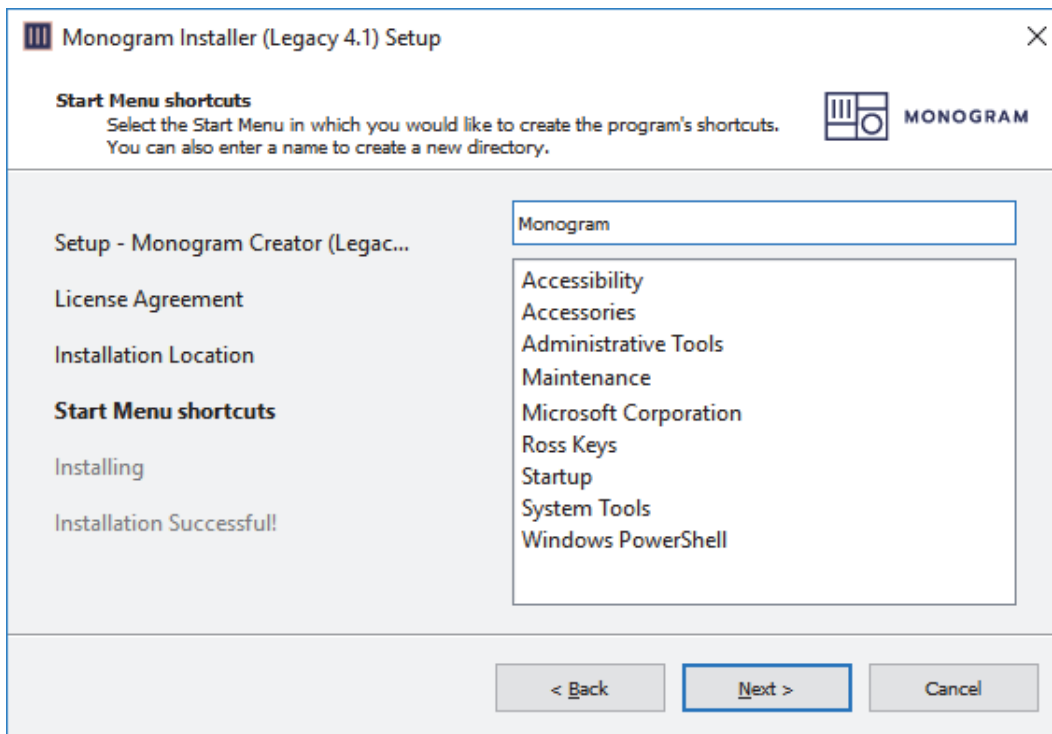

Figure 13 - Menu Shortcuts
8. Click **Next**. The **Menu Shortcuts** dialog box appears (Figure 13).